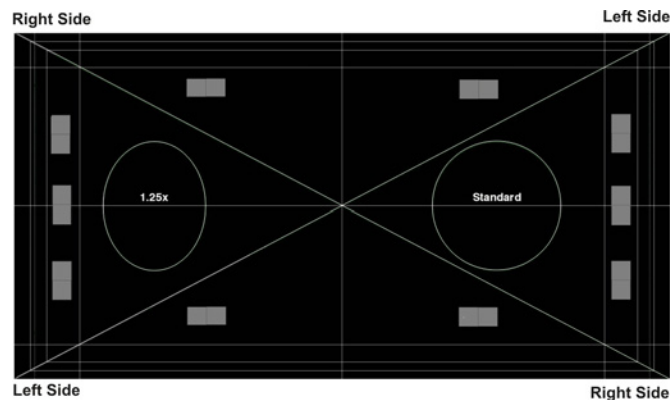

Figure 4-4 Example of Framing Test Pattern
- Check the screen each time an adjustment is made. The right-side adjustments affect the top right and bottom left points on the screen (**Figure 4-4**). Once both cross hairs are in focus lock the set screw for right boresight.